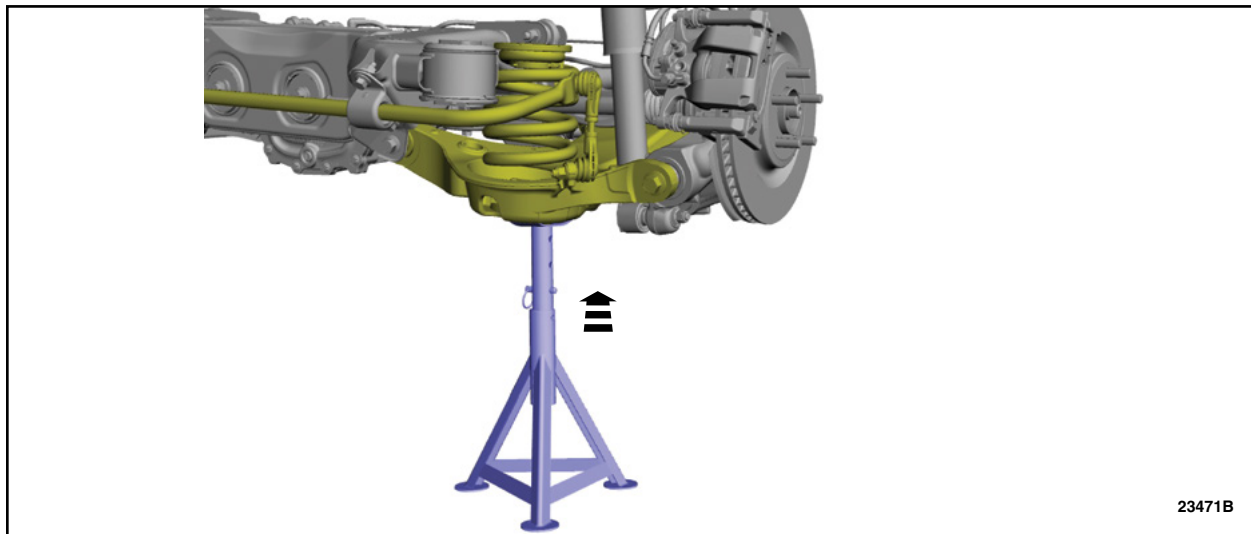

FIGURE 1
4. On the rear LH side of the vehicle, use a suitable jack to raise the suspension until the distance between the center of the hub and the lip of the fender is equal to the measurement taken in Step 1, (curb height). See Figure 1.